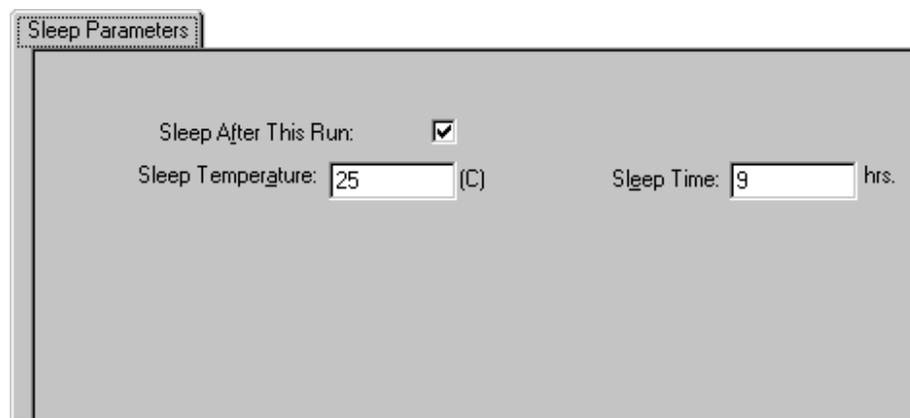

Figure 15-14. Sleep Parameters tab with Sleep After This Run selected.
After the Inject Samples and Run protocol finishes, the software selects the Matrix Fill and Prerun protocol as the next protocol to use, unless you selected the Sleep After This Run check box in the Instrument Parameters area of the Instrument Control window (figure 15-14).
1. In the **Sleep Parameters** tab of the Instrument Control window (figure 15-14), type the number of hours in the **Sleep Time** box.